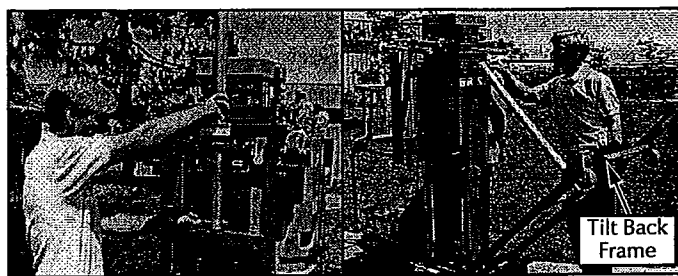

Figure 3-9: Pining the Strut
4. Insert the Strut between the upper Retaining Pin, and the body of the machine. Slide the Strut downward until the bottom end aligns with the lower attachment point. Insert the Retaining Pin into the lower attachment point, and secure with the Hair Pin Retainer (fig. 3-9).
8. Lower the Tilt Back Frame until the holes in the top of the Strut align with the upper attachment point. Insert the Retaining Pin and secure with the Hair Pin Retainer. Check to insure that both of the Retaining Pins are properly installed and secure (fig. 3-9).